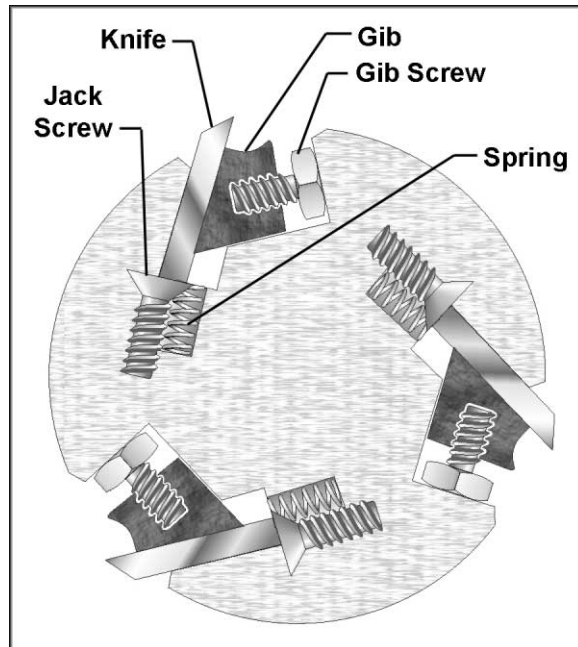

Figure 36
3. Remove the old knives by loosening the square head gib screws with an 8mm wrench. See Figure 36. The springs in the cutterhead will raise the knife for easy removal. Remove knife and gib.
4. Clean the gib and the knife slot. Sandwich the new knife and gib together and drop into slot. Make sure the knife is oriented properly in the cutterhead, as shown in Figure 36.